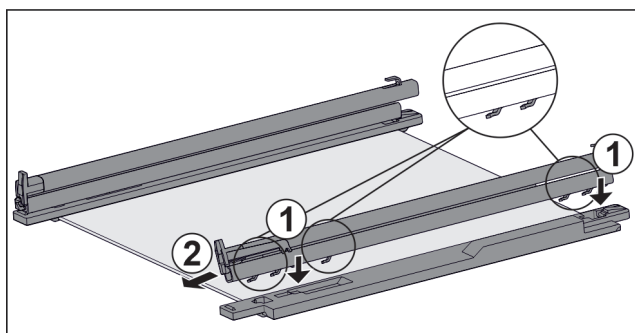

Fig. 160 Glass shelf with rails and retaining parts
- Place rail hooks onto the openings of the **left** retaining part. Fig. 160 (1)
- Push rail forwards. Fig. 160 (2)
- Place rail hooks onto the openings of the **right** retaining part. Fig. 160 (1)